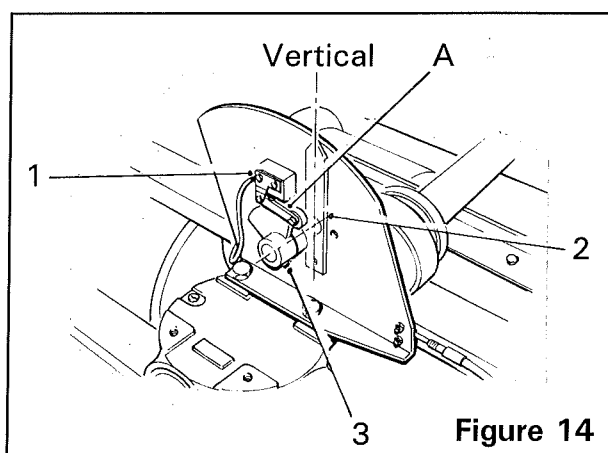

Figure 14
The rear wheels can be centralised automatically by pressing the switch marked 'Rear Axle Auto Centre'. If the wheels do not centralise properly, adjustment can be made by adjusting the self centring switch (*item 1, figure 14*).
4. Ensure the pointer (*item 2, figure 14*) is in the vertical (centre) position.
5. Loosen the cam plate grub screw (*item 3, figure 14*). Set the cam plate so that the corner 'A' touches the switch wheel and a click is heard. Retighten the grub screw.